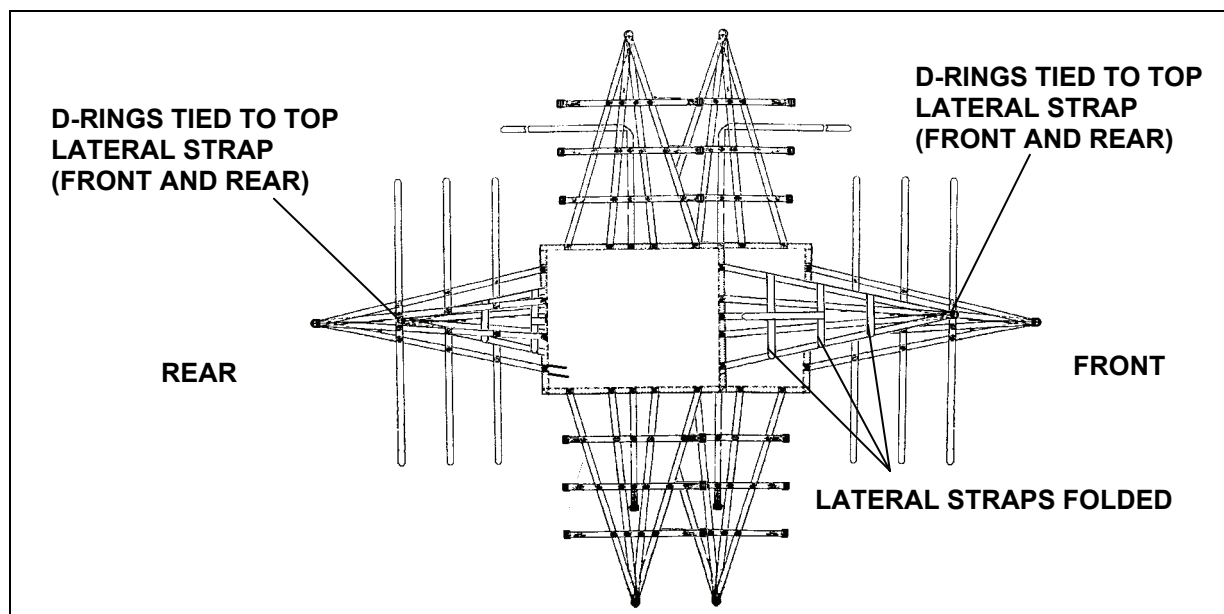

Figure 8-19. Second A-22 Sling Assembly Positioned and Tied
- Fold and place all lateral straps on top of the front support web (Figure 8-19).
- Use a length of Type VIII nylon webbing or two turns of 1-inch tubular nylon webbing to tie the support web D-rings exposed at the front and rear of the load to the top lateral strap of the other A-22 sling assembly as shown in Figure 8-19.